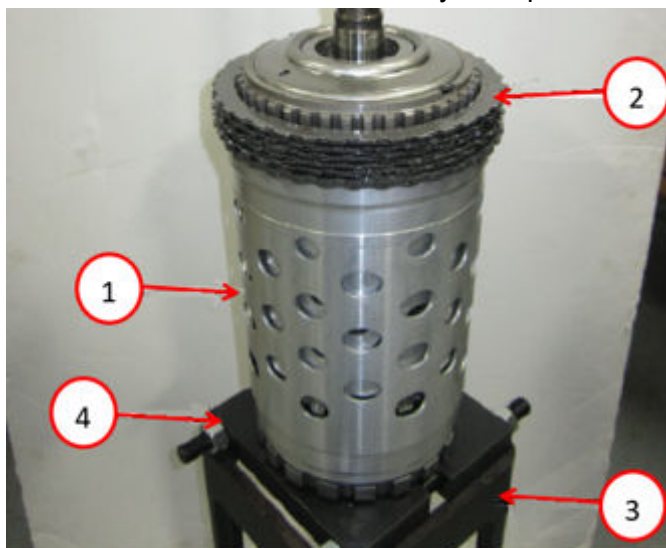

Fig. 19
29. Position the input/output shaft and P4 annulus drum assembly on a press fixture Fig. 19.